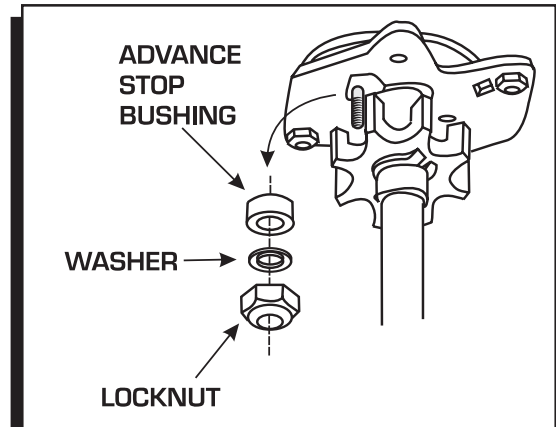

Figure 5 Changing the Advance Stop Bushing.
2. Remove the locknut and washer on the bottom of the advance assembly (Figure 5).